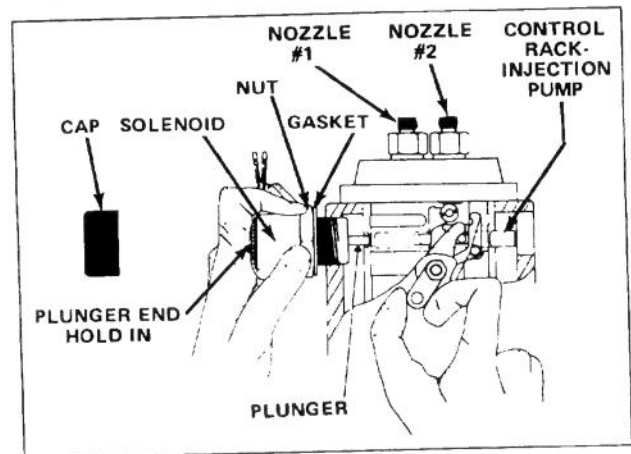

Figure 62
1. Loosen the pipe connection to the No. 1 nozzle and holder assembly (Fig. 62).
4. Remove gasket and nut from old solenoid and install on new solenoid (Fig. 62). Thread nut fully onto solenoid.
5. Remove cap from solenoid, start to thread solenoid into engine (Fig. 62).
6. Push plunger on solenoid fully in and hold (Fig. 62).
7. Rotate emergency engine stop lever to STOP position (Fig. 62).
8. Continue to hold solenoid plunger in and thread solenoid into engine until inner end of plunger contacts control rack of injector pump (Fig. 62). Contact will be indicated when outside end of plunger is pushed away from solenoid body.
10. Hold solenoid body to prevent it from turning and tighten nut against engine to secure adjustment (Fig. 62). DO NOT overtighten nut or solenoid may become distorted causing it to malfunction.